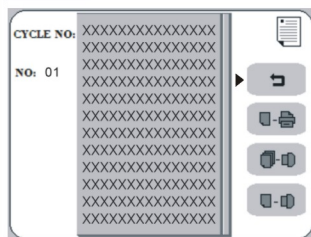

Fig.4.3-23
4.3.2.2 “PRINT RECORD” :Select interface Fig.4.3-9, click “RIGHT” button into interface “PRINT RECORD” Fig.4.3-10. Then click “START/STOP” button into interface Fig.4.3-23.
See sterilization records: When LCD display Fig.4.3-23, click “PROGRAM&SELECT” button to round the page, checking the whole report. click “LEFT” or “RIGHT” button to change the number of cycle.
EXIT: If you want to back to interface Fig.4.3-23, click “PROGRAM&SELECT” button, triangular arrow will mark the return icon(↩). then click “START/STOP” button to exit.